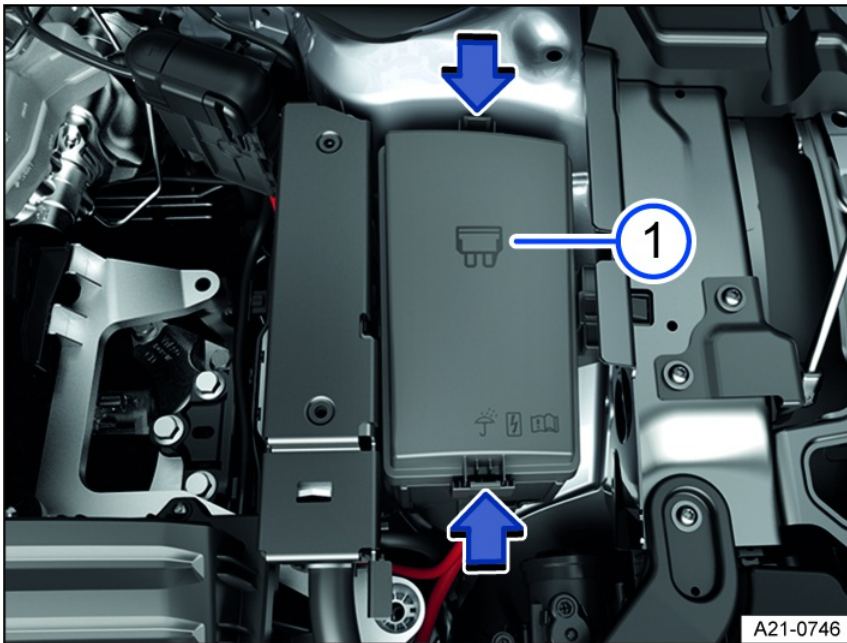

Fig. 153 In the engine compartment: Fuse box.
The plastic pliers *fig. 153* for removing fuses can be found on the inside of the fuse box cover or on the fuse panel.
2. Press the catches in the direction of the arrow to unlock the fuse box cover *fig. 153* ①.